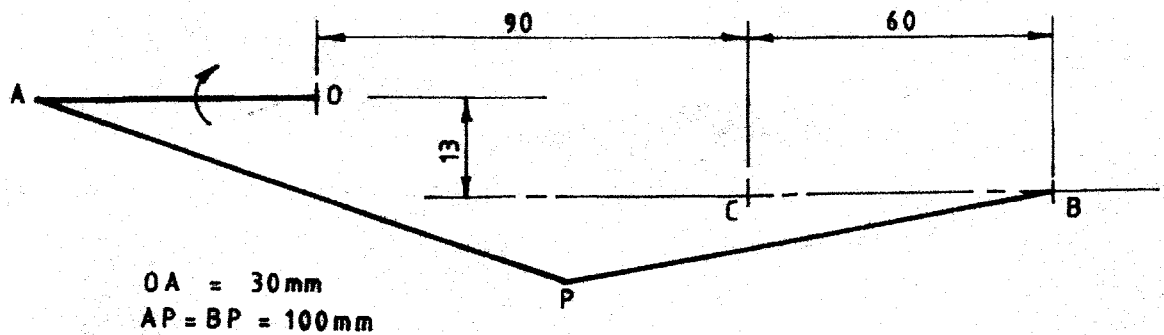

Fig. 4
4. Figure 4 shows a three bar mechanism. Construct the locus of point P when point B moves horizontally to point C and back. (15 marks)